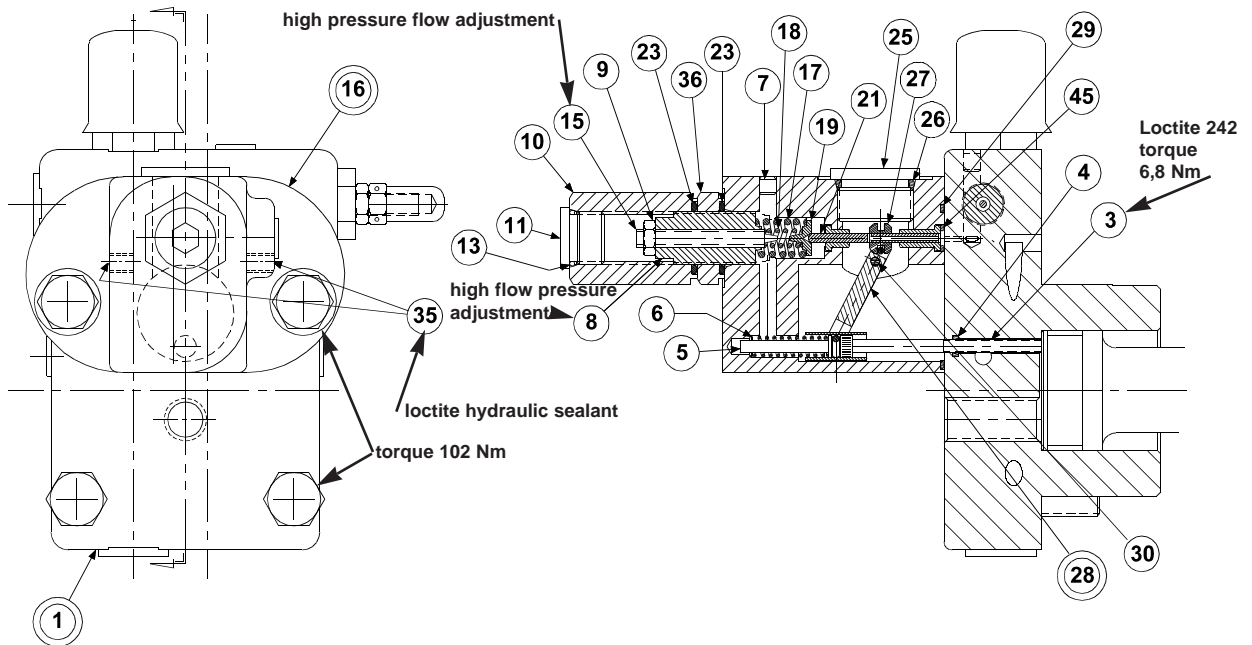
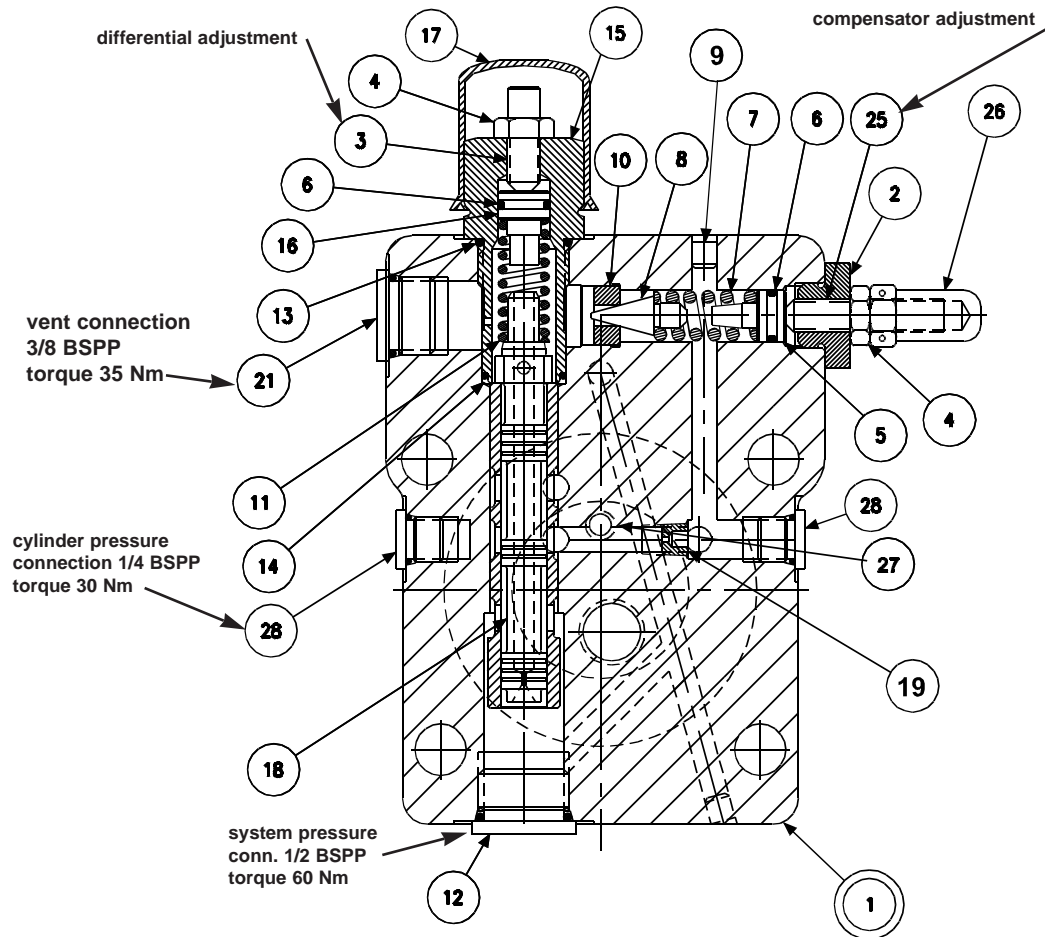

FIGURE 12 – TORQUE LIMITER ASSEMBLY
FIGURE 13
1. **See Figure 12.** Remove 2 screws holding torque limiter body (16) to cap assembly (1).
2. Remove all parts from torque limiter body (16) except pin (30) and arm assembly (28). It is not necessary to remove these parts unless broken or worn. Examine parts for wear or damage.
3. Remove screw (3). Examine head for excessive wear, and body for smooth sealing surface with O-ring.
5. Remove cap assembly (1).
6. **See Figure 13** Remove plug (15) and attached parts. Remove spring (11) and spool (18).
7. Remove adjusting plug (2) and attached parts. Remove spring (7) and cone (8).
8. Do not remove sleeve in body (1). Sleeve is pressed into cap and finished to size. If sleeve or cap is worn, replace the cap-sleeve assembly (1).
9. Examine seat (10) for wear. Do not remove unless damaged.
1. **See Figure 13** Install Avseal plugs (9) and orifice (19) in body.
2. Press seat (10) into bore squarely against shoulder in bore.
3. Install spool (18) into bore as shown. Install spring (11) over end of spool. Install O-ring (6) on seal piston (16). Lubricate and install into plug (15). Install O-ring (14) in bottom of bore as shown. Install O-ring (13) on plug (15). Install plug (15) into cap. Install screw (3) and nut (4). Install plug (12). Torque plugs (12) and (15) to 60 Nm. Install plug (21). Torque to 35 Nm. Install plug (28). Torque to 30 Nm.
4. Install O-ring (6) on seal piston (5). Lubricate O-ring and Install cone (8), spring (7) and seal piston (5) into bore in cap (1), being careful that cone enters seat (10). Install adj. plug (2), screw (25), nut (4) and acorn nut (26).
5. Carefully install O-ring (27) in the cap.
8. **See Figure 12.** Apply Loctite 242 on threads of screw (3), lubricate the shank, thread through the cap into the control piston, and torque to 6,78 Nm
10. Press dowel (30) into body (16), through the link assembly (28), to 6,35 mm below surface. Apply Loctite hydraulic sealant to threads of screws (35) and install over dowel (30).
11. While sleeve (27) is engaged into dowel on link (28), slide spool (21) into bore of body (16), and through sleeve (27). Spool (21) must move freely and easily at all positions of the link (28).
12. Assemble remaining parts per drawing. While spring retainer is engaging clevis pin (5) under dowel of link (28), slide the other opening of spring retainer over the top of the screw (3). Attach body assembly (16) to cap (1) and torque screws to 102 Nm.
PARTS LIST FOR FIG. 12
PARTS LIST FOR FIGURE 13